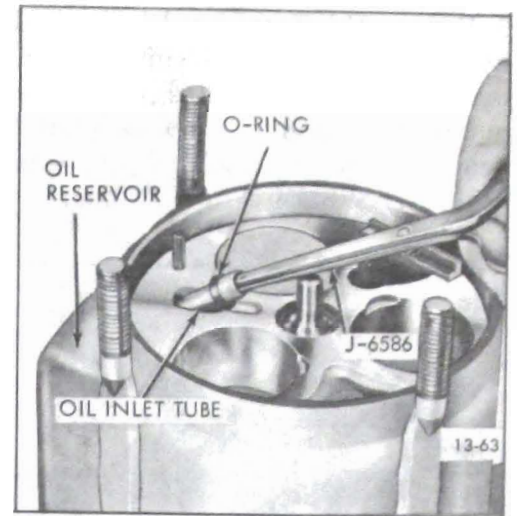

Figure 13-87 Removing Oil Inlet Tube
1. Pull out oil inlet tube (see Figure 13-87) and oil inlet tube "O" ring using Remover (J-6586).